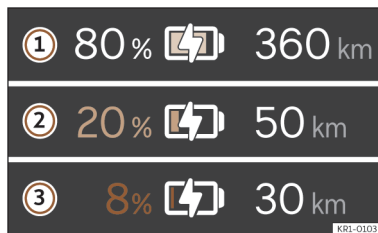

Fig. 2 On the digital instrument cluster: range and reserve indication.
The current state of charge of the high-voltage battery is indicated by the symbol on the digital instrument cluster >>> **Fig. 2 ①**. The battery symbol will be more or less full depending on the state of charge of the battery.
The vehicle range is displayed in kilometres (km) or miles (mi) depending on the selected setting >>> **Fig. 2 ②**.
Reserve area >>> **Fig. 2**